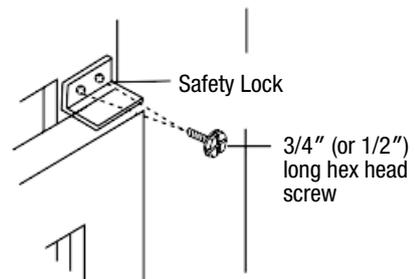

FIG. 19B
- Attach right angle safety lock. (Fig. 19B)